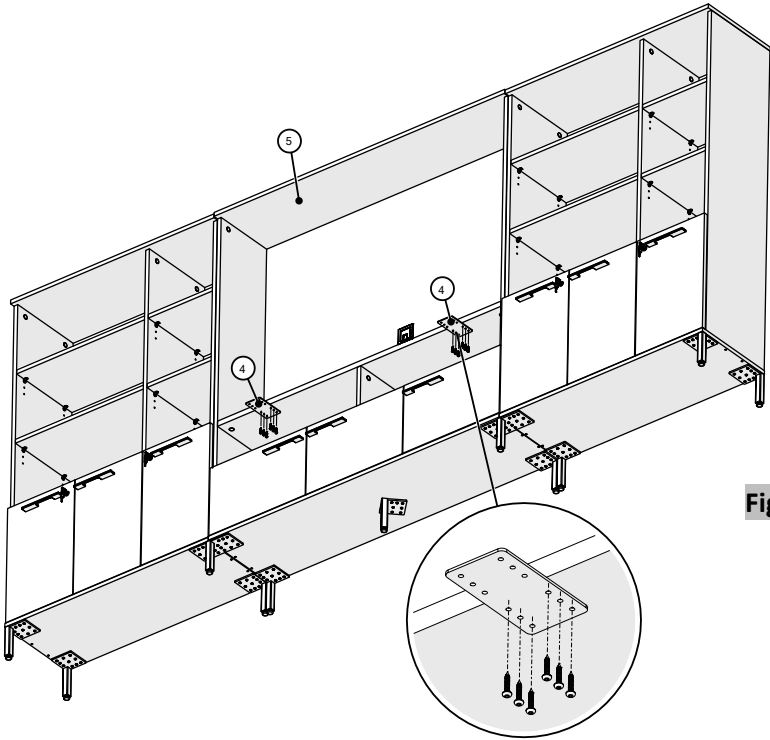

Figure 3
- 5. Attach the Flush Plate to underneath the AV storage unit top fix shelf using (6) #10 x 1" Pan Head Screws, (Figure 3).